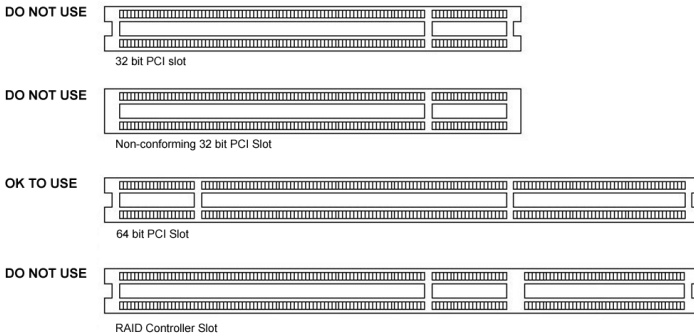

Figure 3: PCI and RAID Controller Slots
The BarcoMed 5MP1HM is a 64-bit PCI controller. To obtain full performance, it needs to be installed in a 64-bit slot. Figure 3 illustrates the types of slots so that you can correctly identify which one to use for the 5MP1HM.
4. Install the 5MP1HM Display Controller into a free 64-bit PCI slot (see Figure 3 for examples of slots). Be sure that the controller is seated firmly in the slot.